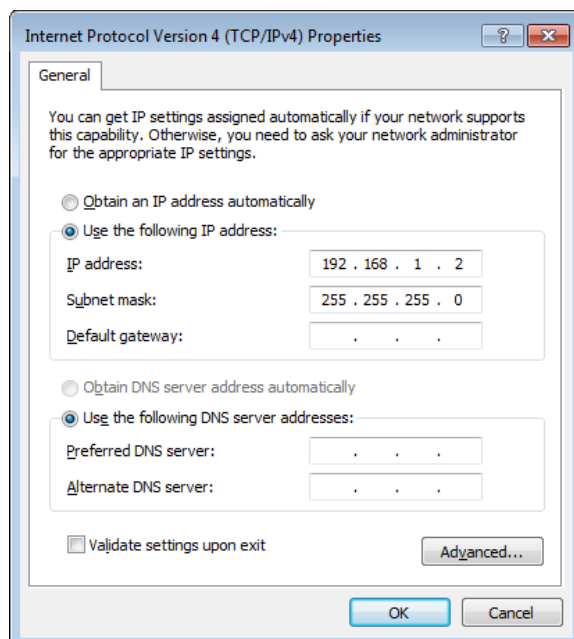

Figure 1.14. Static IP configuration of PC
1. Use one of the network cards and set it to static IP in TCP/IPv4 using the IP address **192.168.1.n**, where $n=[2..9]$ and the mask **255.255.255.0**, see Figure 1.14 (go to **Control Panel → Internet Options → Network and Internet → Network and Sharing Center → Local Area Connection → Properties**).